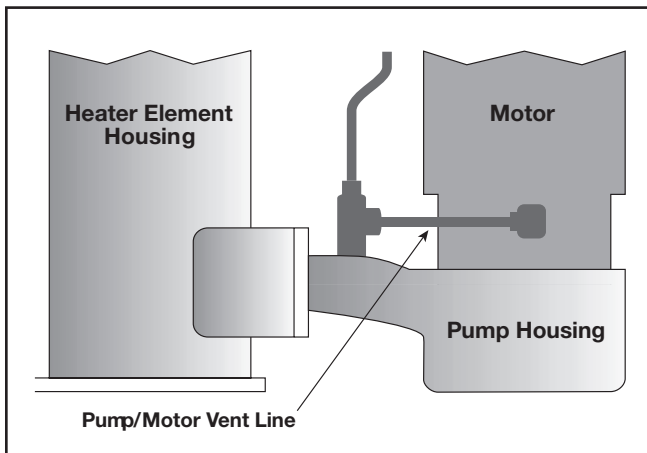

Figure 6.3 Motor Vent Line
6. Loosen and remove vent line (see Figure 6.3, Motor Vent Line).